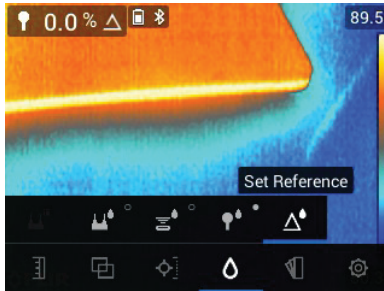

Figure 7.13 Selecting the 'Set Reference' mode.
1. Select the 'Set Reference' mode from the menu (*Moisture mode/Set Reference* ); see **Figure 7-13** above. This mode is only available for pinless measurements, including the optional MR12 Ball Moisture probe.